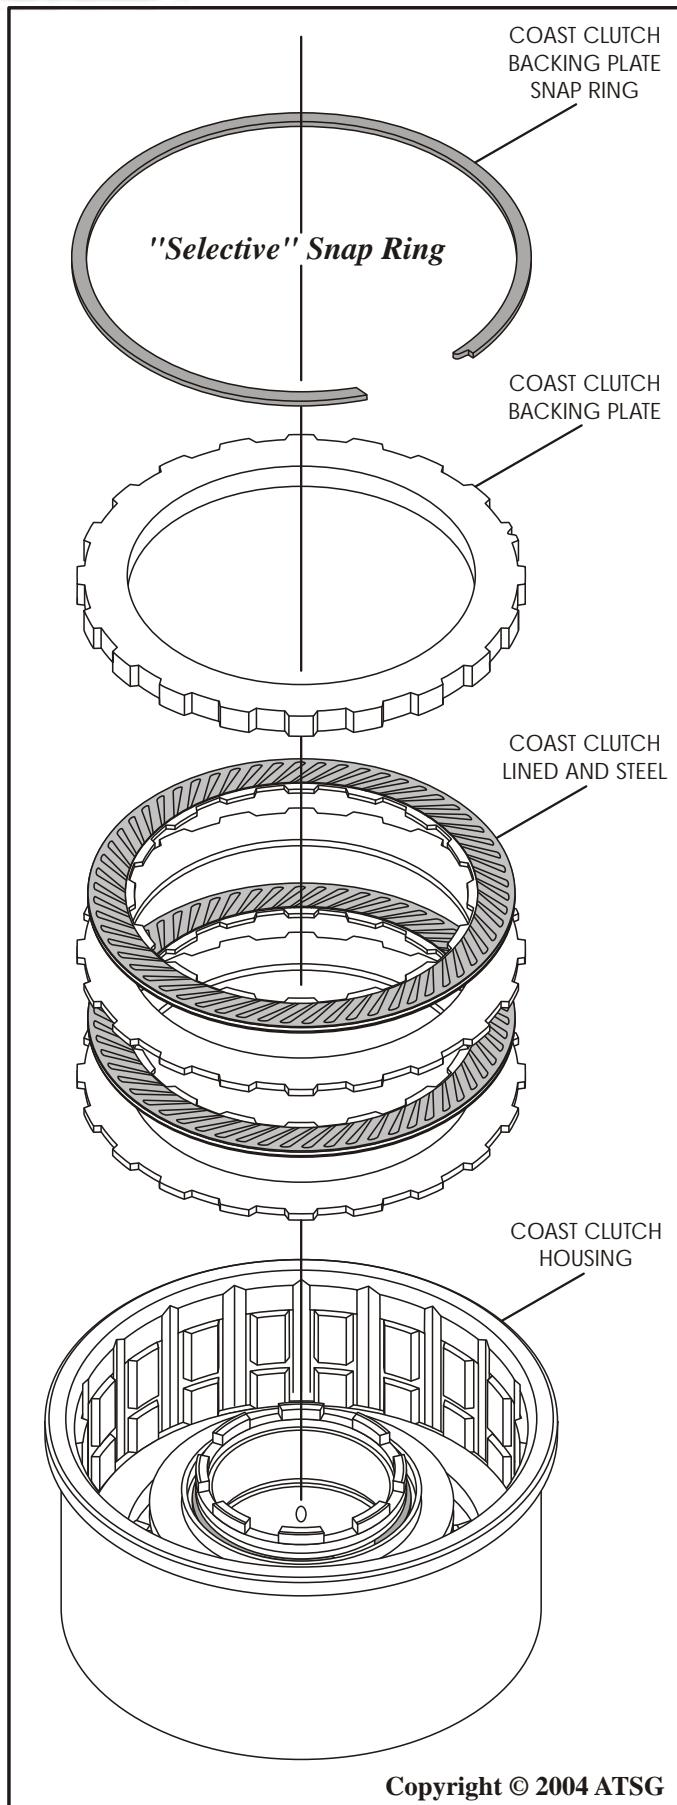

Figure 70
14. Install the friction and steel coast clutch plates into the coast clutch drum, beginning with a steel plate and alternating with a friction plate, until you have installed two of each, as shown in Figure 70.
CAUTION: *Coast Clutch friction plates are directional and must be installed with the grooves facing clockwise, as shown in Figures 70 and 71. Friction plates should be soaked in Mercon® V for at least 30 minutes before installation.*
15. Install the coast clutch backing plate, as shown in Figure 70.
16. Install the coast clutch backing plate snap ring, as shown in Figure 70 and ensure that it is fully seated in the groove (See Figure 70).